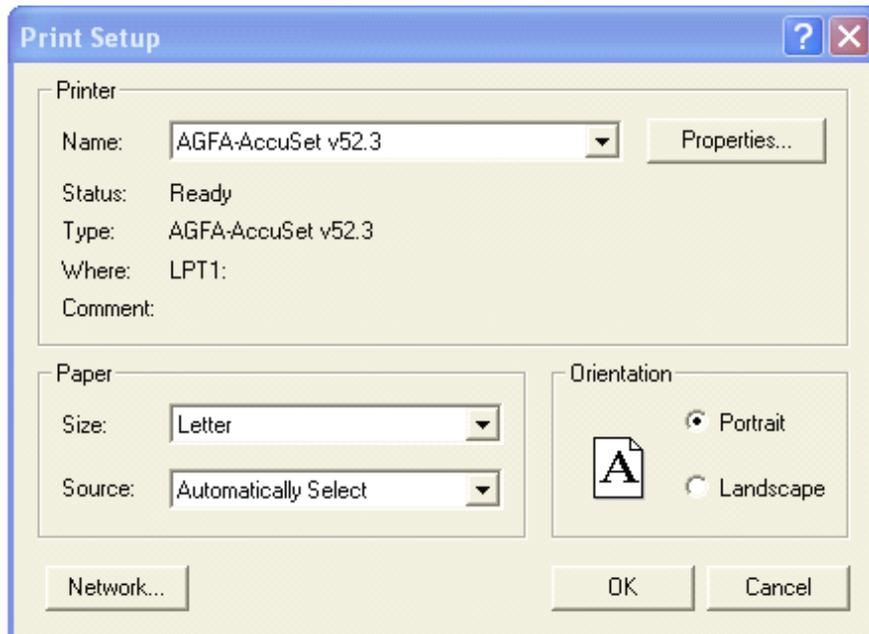

Fig.2.14 Print setup
**【 Print Setup 】** : Reset the print options. Choose **Print Setup**, then pop up the **Print Setup** dialog box. For beautiful looking, the orientation of printing paper for LD and FBD is generally set to be landscape, however, for other programs, it shall be set to be portrait. As shown in Fig.2.14: